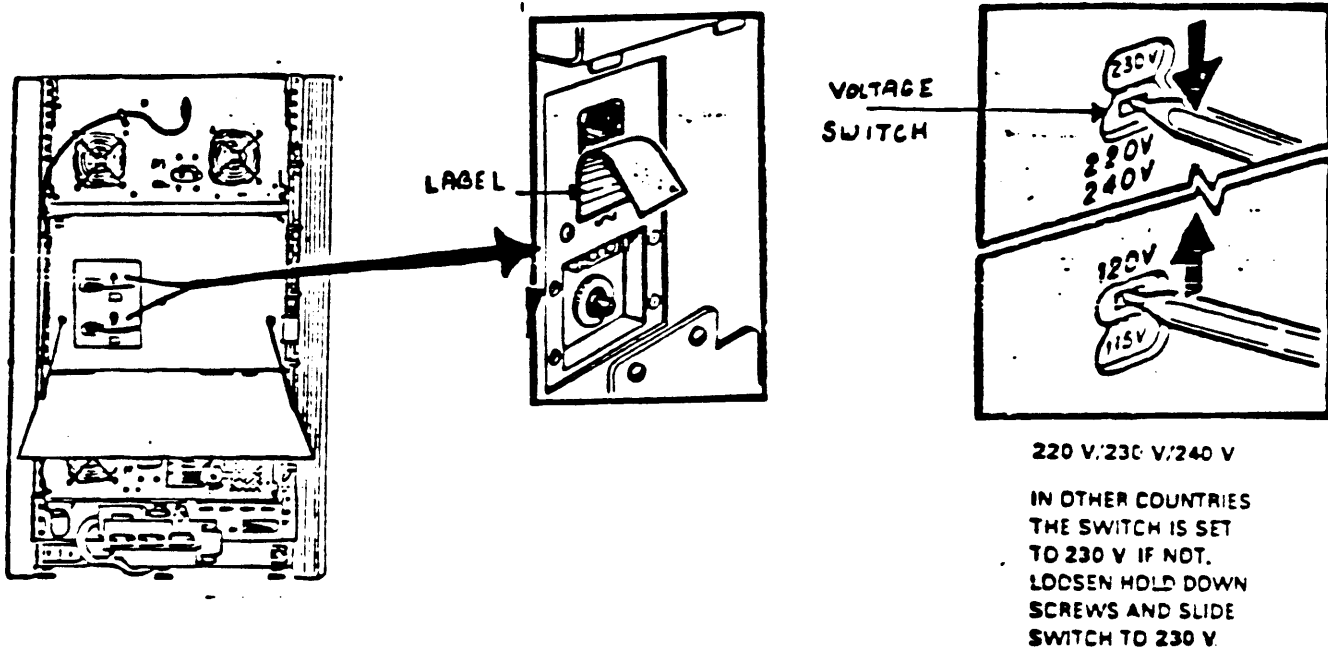

Figure 2-29 Make sure the voltage settings match the voltage source you are using.
- o Peel back the labels covering the two switches to see the voltage settings. If necessary, change the switch settings to match the voltage source you are using (see Figure 2-29).